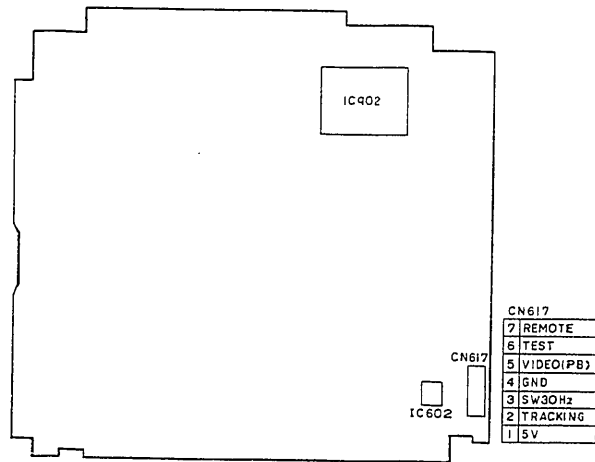

Fig. 4-152 Main Circuit Board (Side - A)
(2) Setting the Power Shut Off Level (Figs. 4-152, 4-153)